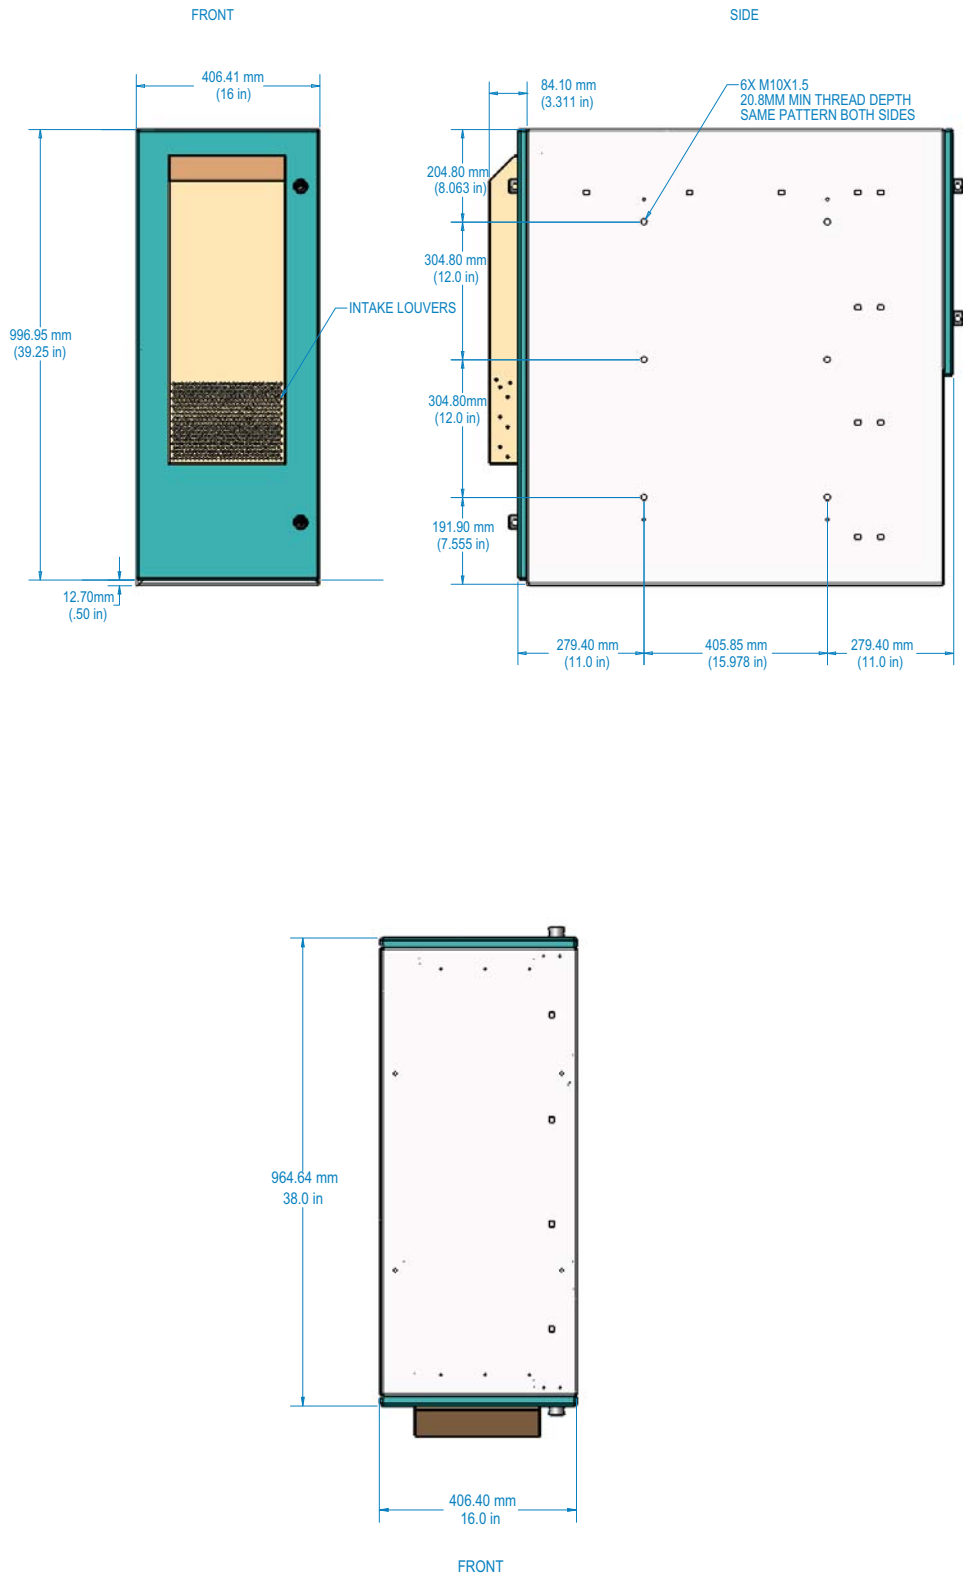

Figure 5-1 Outdoor System Dimensions
The performance and physical specifications for the OS-1933-E0-003 Outdoor Multi-Carrier Power Amplifier (MCPA) System are listed in Table 5-1. Outdoor System (OS) dimensions and installation examples are shown in Figures 5-1 through 5-4.
Dimensions	Refer to Figure 5-1 Outdoor System Dimensions